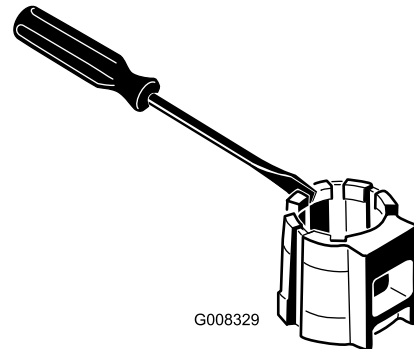

Figure 6
1. Use the flat blade of a screw driver to help open the sleeve and slide the sleeve off the tine (Figure 6).